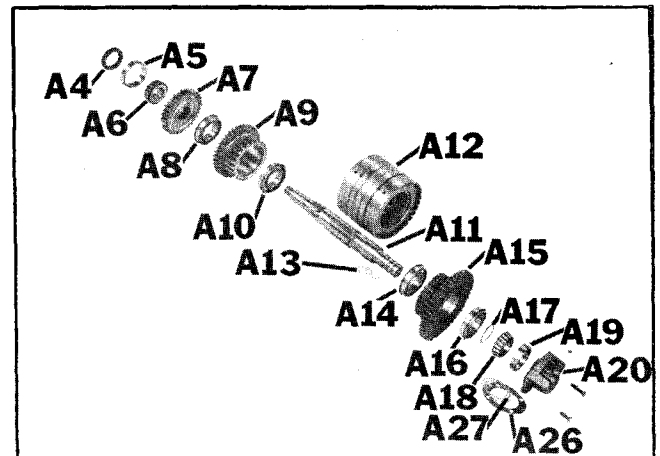
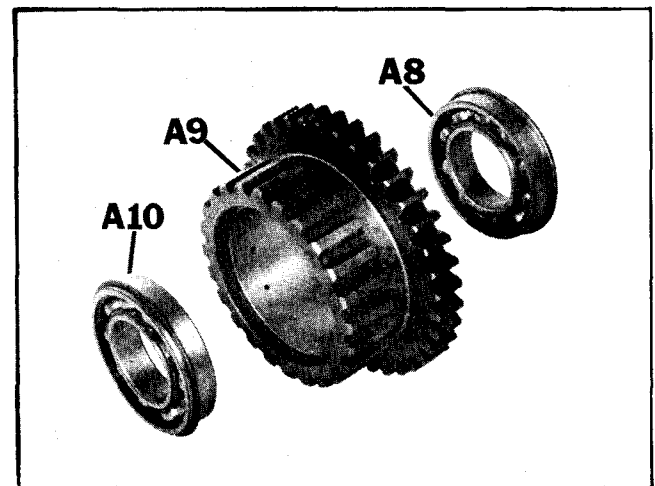

Figure 16
Figure 19
1. Using a suitable puller, remove bearing cone (A-18) from input shaft (A-11) (Figure 16).
5. Remove bearings (A-8 and A-10) from clutch gear (A-9) (Figure 19) and bearings (A-14 and A-16) from clutch gear (Figure 16).